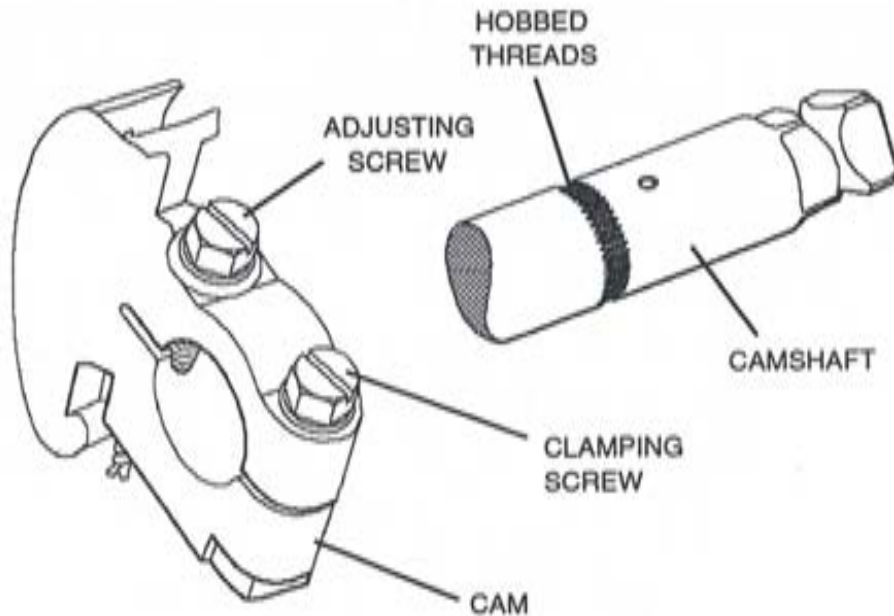

Figure 5-5. Cam Adjustment Screw
1. With the switch controller cover removed and the cut-out contact for the switch machine open, observe the adjusting and clamping screws on top of cam. Refer to Figure 5-5. When in the adjusting position, the screws are easily accessible.